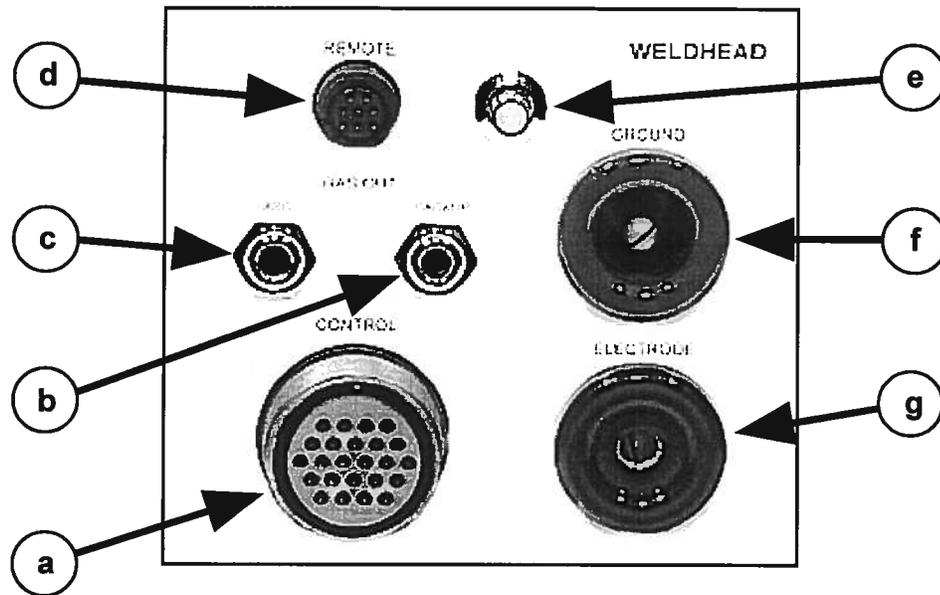

FIGURE 3
1. Connect two weldheads to the front panel "A" and "B" outputs of the DWA (Figure 3).